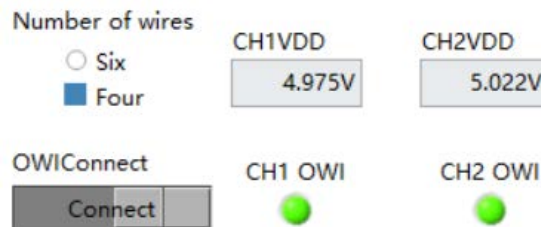

Figure 5.3.8 OWI Connect
- Click on the "Four" option under "Number of wires" to choose the chip connection mode (as described in detail in the hardware connection diagram in the third chapter). Click the "OWI Connect" button to establish communication between the programmer and the chip. When the connection is successful, the programmer connection indicator light will turn solid green (Figure 5.3.8).